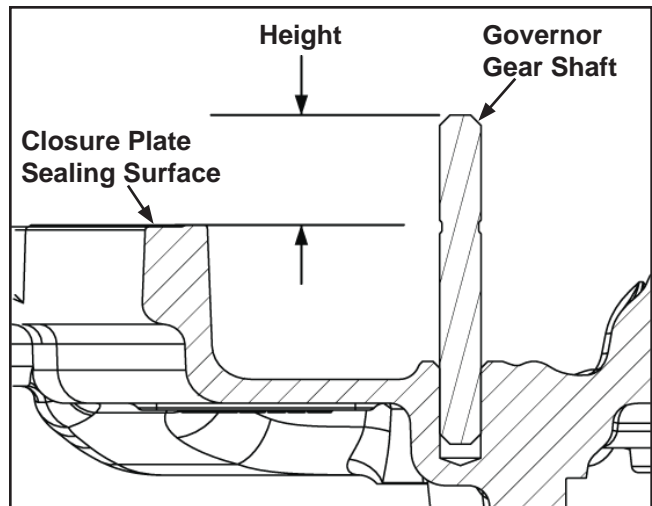

Figure 11-14. Install Governor Gear Shaft.
1. If the shaft was removed in disassembly, use an arbor press to install the new shaft to a height of **16.025 mm (0.6309 in.)** from the closure plate sealing surface. See Figure 11-14.